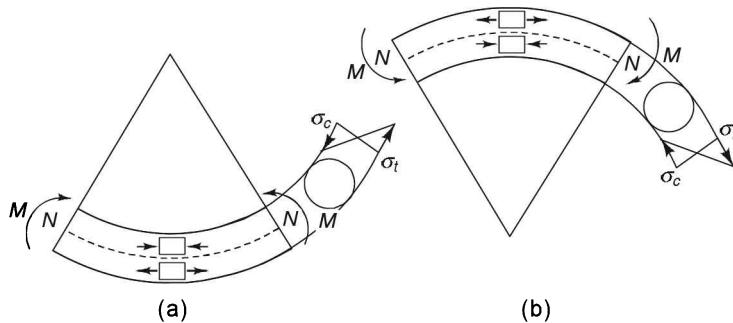

FIGURE 16.2 (a) Sagging bending moment and (b) hogging bending moment.
Bending can be sagging or hogging (Figure 16.2). In sagging, the beam curves upwards. The layers above the neutral axis (length remains the same) contract, while the layers below the neutral axis expand. In hogging, the layers on top of the neutral axis expand and the layers below the neutral axis contract. Sagging bending moment (BM) is taken positive while hogging bending moment (BM) is taken negative.